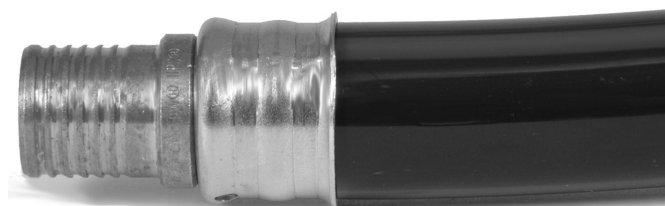

Figure 3 – Completed Pressed Fitting
1. Inspect the pressed connection (Figure 3) – Look for the following: